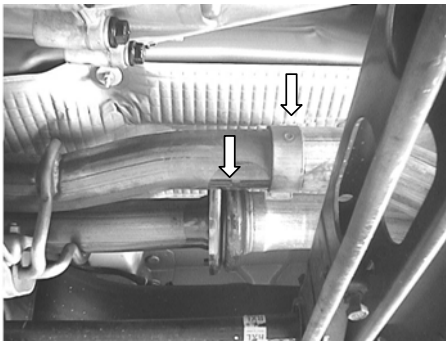

Figure 1
2. Remove bolts from flange on the right pipe and loosen clamp on left pipe, both shown in figure 1.